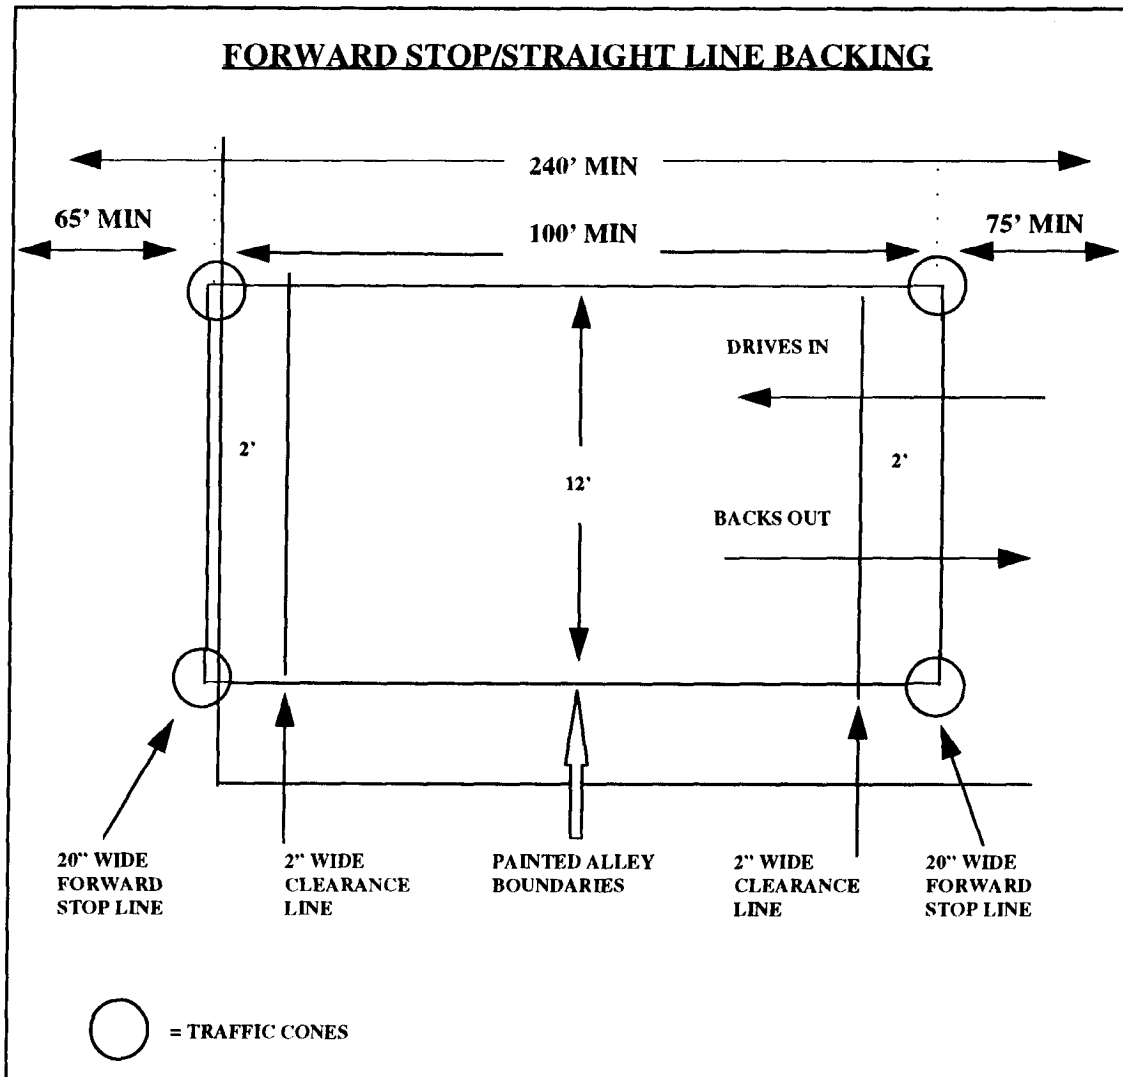
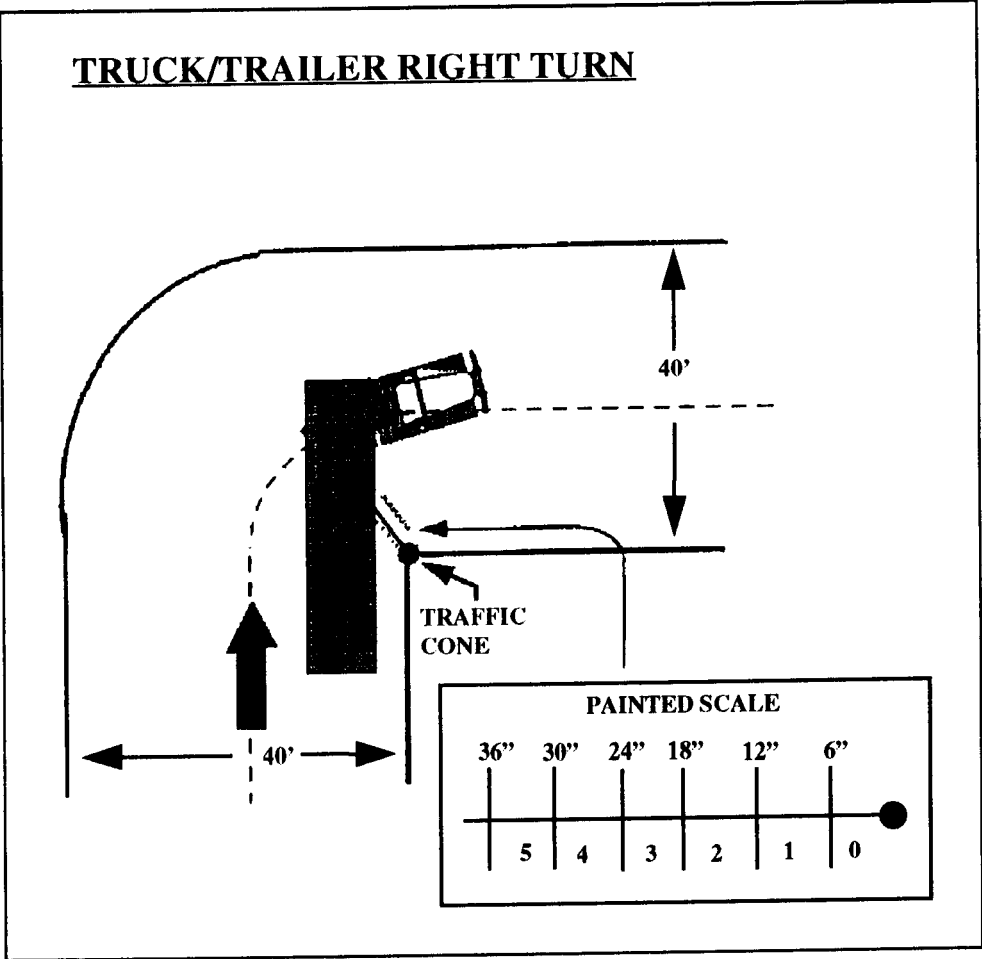
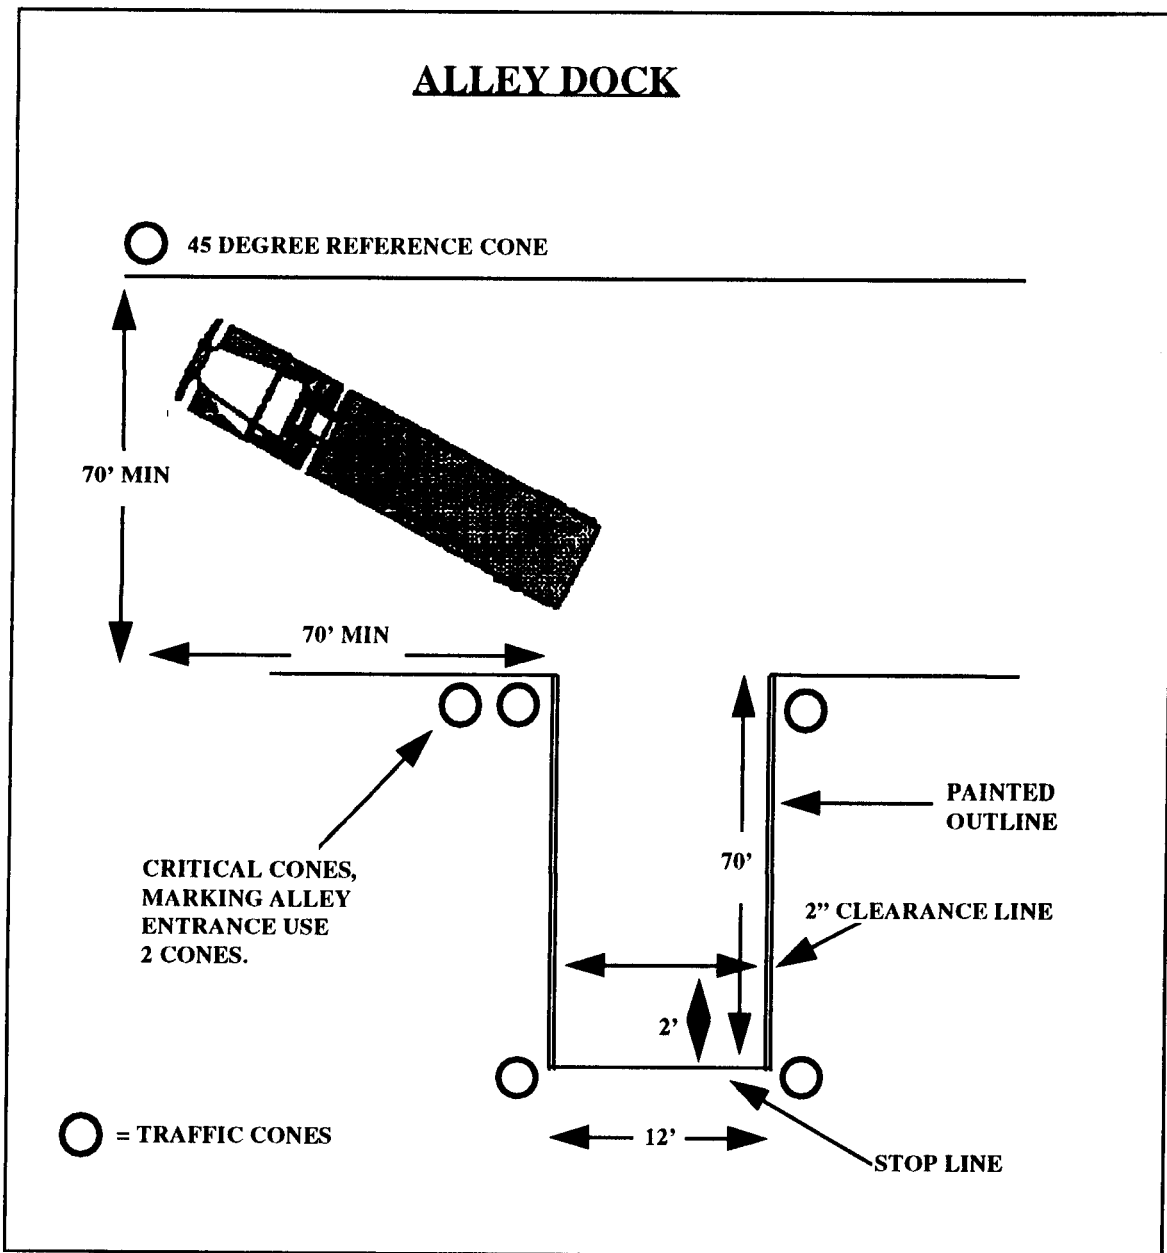

Figure 11-1. Forward stop/straight line backing
Figure 11-2. Right turn
Figure 11-3. Alley dock
11-3. THE BASIC CONTROL SKILLS TEST. The exercises are designed to evaluate basic skills in controlling the vehicle and judging its position in relation to other objects. It also tests basic skills essential for safe control of the vehicle. The four events that make up the basic control skills test are forward stop, straight line backing (Figure 11-1, page 11-2), right turn (Figure 11-2, page 11-3), and the alley dock (Figure 11-3, page 11-4). Both the forward stop and straight line backing are depicted in the same figure. They may be setup together or at different locations. This may depend on the amount of maneuvering room you have for testing. Even though the forward stop and straight line backing are depicted together, they are scored as separate events. The description for the events are as follows:
a. **Forward Stop.** Begin this event with the vehicle outside the exercise boundary. Drive forward between two rows of cones or lines. Bring your vehicle to a complete stop with the front bumper between the end exercise boundary lines or set of cones. You may stop only once. Do not stop beyond the outer boundary marker (see Figure 11-1).
b. **Straight Line Backing.** Begin this event with the vehicle outside the exercise boundary. Back your vehicle in a straight line between two rows of cones or lines without touching or crossing over the exercise boundaries. Stop the vehicle when your front bumper is between the two cones or lines at the end. Do not stop beyond the outer line or cones (see Figure 11-1).
c. **Right Turn.** Drive forward and make a right turn around a cone. Drive the vehicle as close to the cone as possible without hitting it. Keep your vehicle inside the left and right exercise boundary lines or cones (see Figure 11-2).
boundary lines or cones at all times. Sight-side back your vehicle into the alley, bringing it as close as possible to the rear of the alley without going beyond the end line or row of cones (see Figure 11-3).